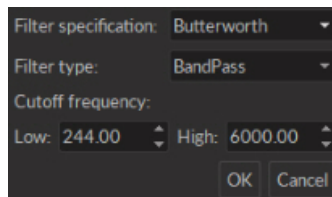

Figure 3.35: *Filters Window*
- The **Filter** function opens the **Filter** (Fig. 3.35) window uses a butterworth filter to remove unwanted frequencies from the data. These filters can be **Bandpass**, **Bandstop**, **Low-pass** or **High-pass**.